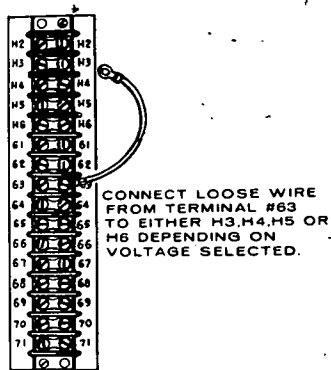

FIGURE 16. CONNECTING LEAD FROM TERMINAL 63
- Open hinged control panel doors. Connect lead from terminal 63 to correct terminal for voltage desired. These terminals are labeled H2, H3, H4, H5 and H6. See Figure 16.